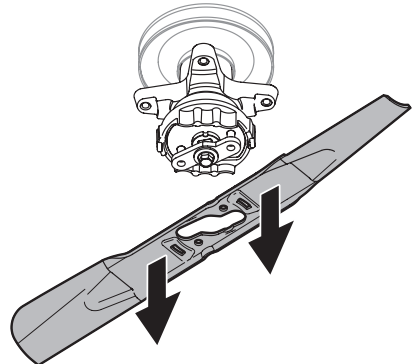

Figure 45
5. When the hole in the center of the blade aligns with the tractor blade retainer, carefully lower the blade (Figure 45).